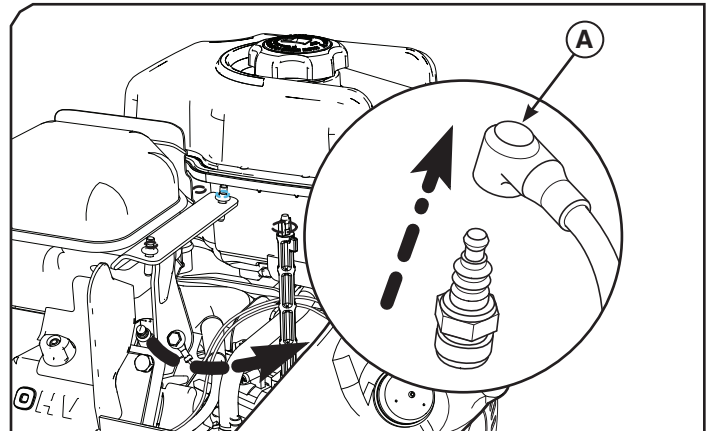

Figure 6
1. With engine off but still warm, remove the key and then disconnect the sparkplug wire (A, Figure 6) and secure it away from the sparkplug.